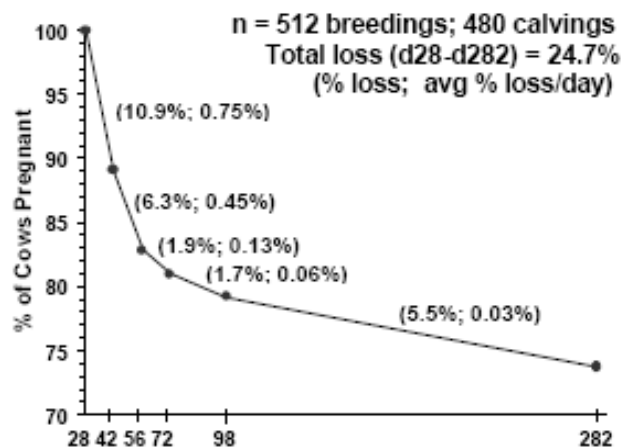

Figure 3. The rate of early embryonic loss and days post breeding (5).
A problem that is faced by dairy producers is that early embryonic loss is high between 28 to 34 days with early detection with ultrasound and 34 to 42 days as a normal time for regular palpation. It isn't well understood why the embryos regress during this period but studies do show that using an ultrasound is no less as invasive as regular palpation (1). Figure 3 shows a study and the rate of loss between 28 to 42 days could range from 10.9% down to .75%. This wide range but needs to be considered in if pregnancy checking earlier than 34 days